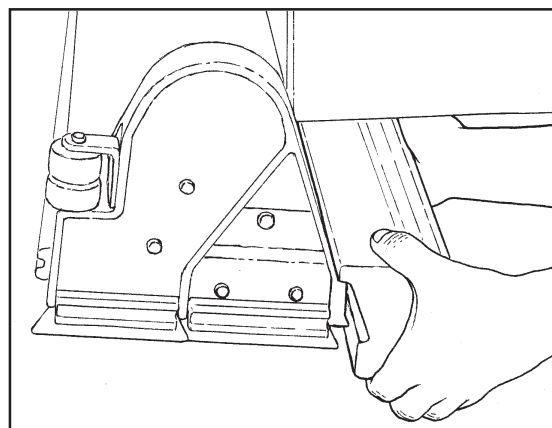

Figure 35
7. On machines with cylindrical brush head, the debris tray needs to be emptied regularly to prevent overflow. To remove the debris tray from the machine follow this procedure (See Figure 35).